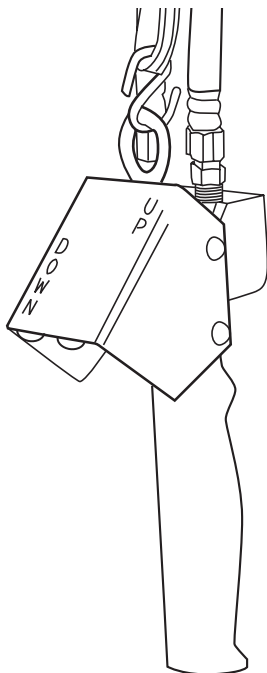

Figure 6— Pendant Throttle Control Handle
- a. Depress throttle valve lever marked "UP" to raise load (See Figure 6).